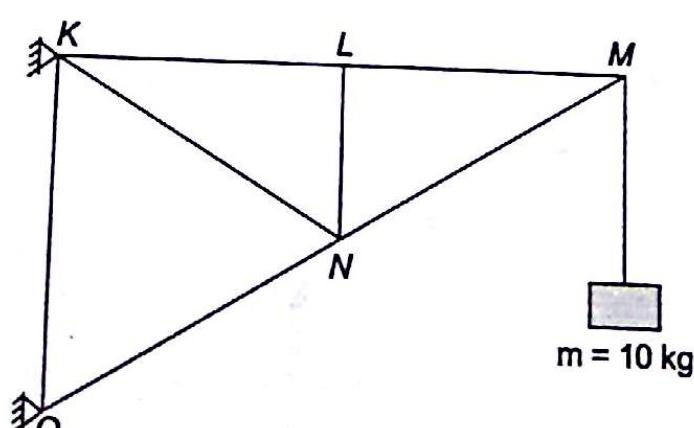

Fig. 4.55
4.26 The Fig. 4.55 shows a pin jointed truss loaded at the point M by hanging a mass of 100 kg. The member LN of the truss is subjected to a load of